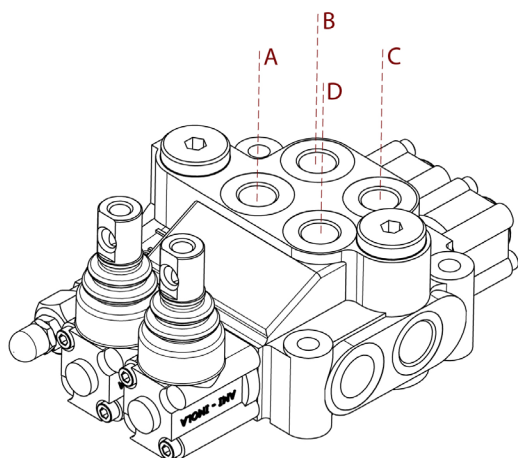

Fig. 26b
- 1) If the diverter is not already connected to the machine, attach the four hydraulic connections (A, B, C, D) of the machine in front of the diverter (Fig. 26b).